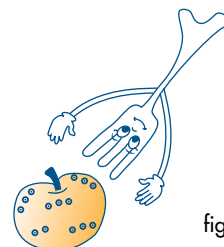

fig. 9
- 3) Food with skin, shell or peel (e.g. apples, potatoes, tomatoes, frankfurters and fish) should be **pierced in several places** with a fork in order to let out the steam without the skin or peel bursting (fig. 9).